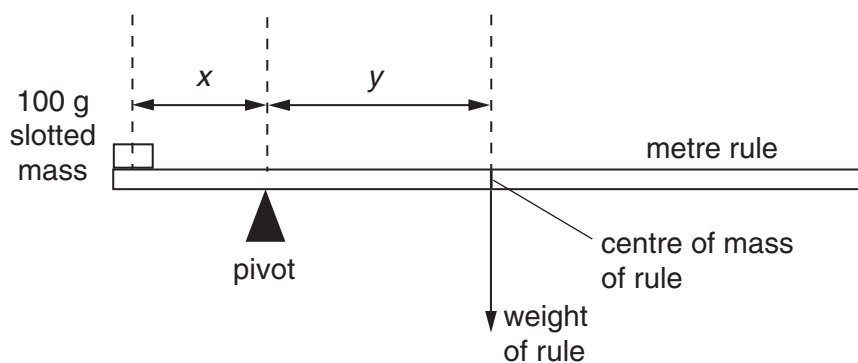

Fig. 1.1
- (ii) The candidate will set up the apparatus as shown in Fig. 1.1.